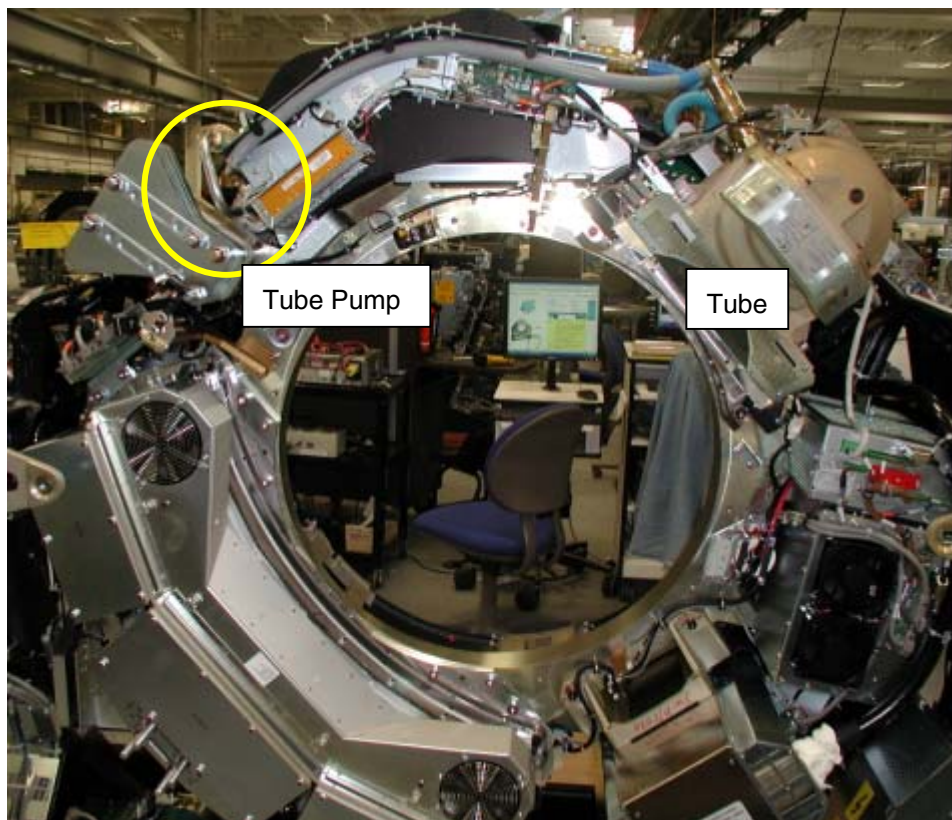

Figure 1. Gantry position
3. Rotate the gantry so the pump location is on the left (TGPU side) as shown in Figure 1.